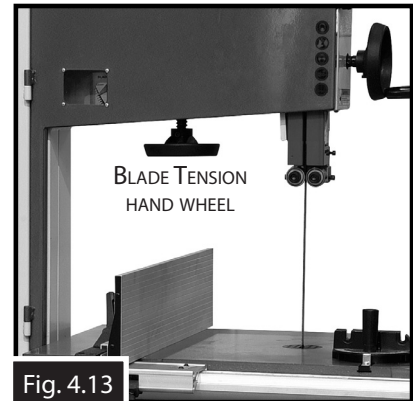
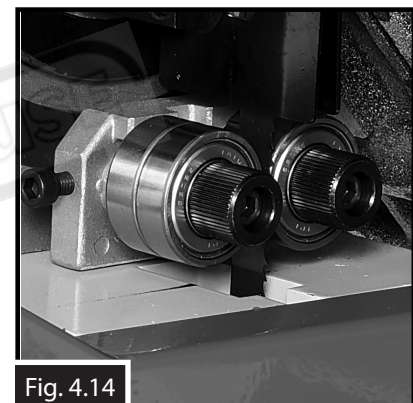

Fig. 4.13
Fig. 4.14
2. Raise the upper blade guide assembly as high as it will go, (Fig.4.13) and adjust the upper and lower guide blocks approximately 0.5mm away from the blade. (Fig. 4.14)